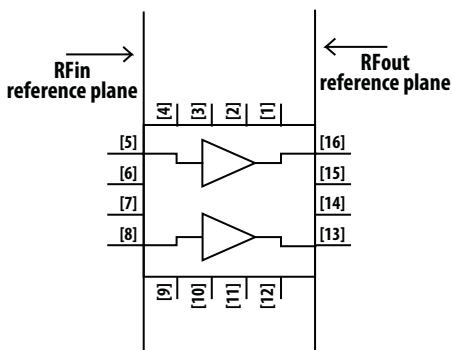

Figure 32.
2. Scattering and noise parameters are measured on 0.010 inch thick ROGER 4350. The input reference plane is at the end of the RFin pin and the output reference plane is at the end of the RFout pin as shown in Figure 32.